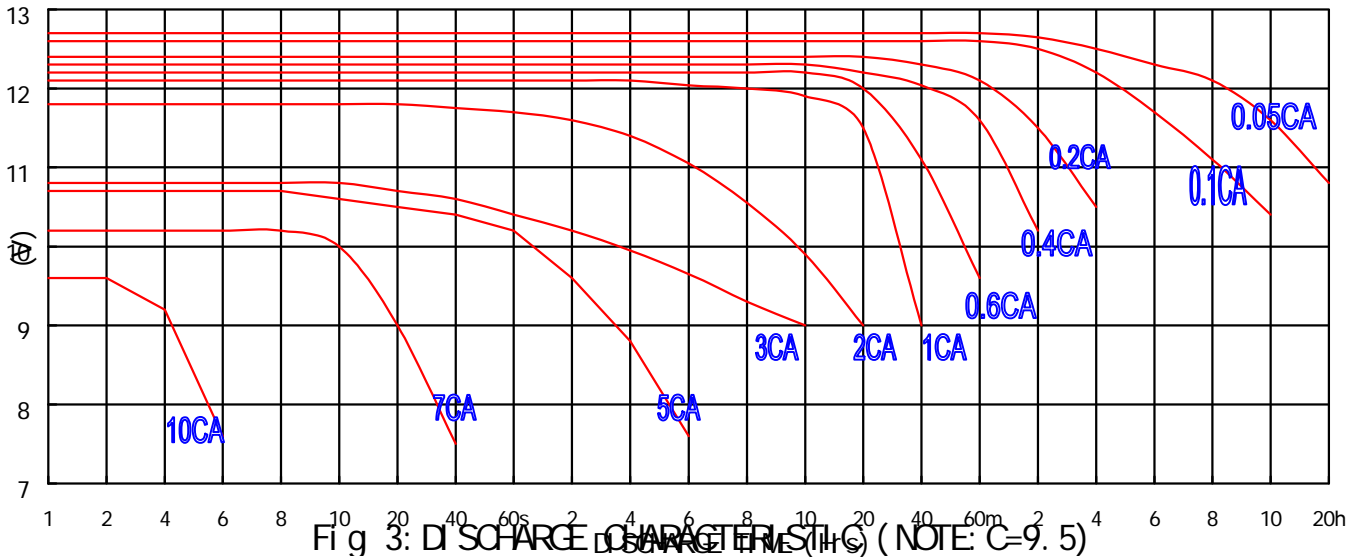

Fig 3: DISCHARGE CHARACTERISTICS (NOTE: C=9.5)
b) Discharging characteristics (Fig 3)